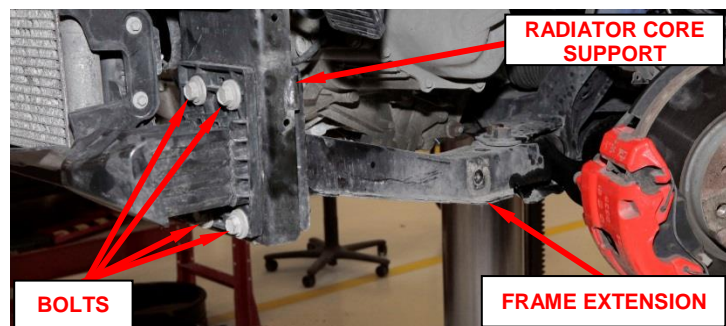

Figure 46 – Frame Extension
48. Remove and save the four bolts with washers attaching the left frame extension to the radiator core support (Figure 46).
49. Remove and save the left frame extension (Figure 46).